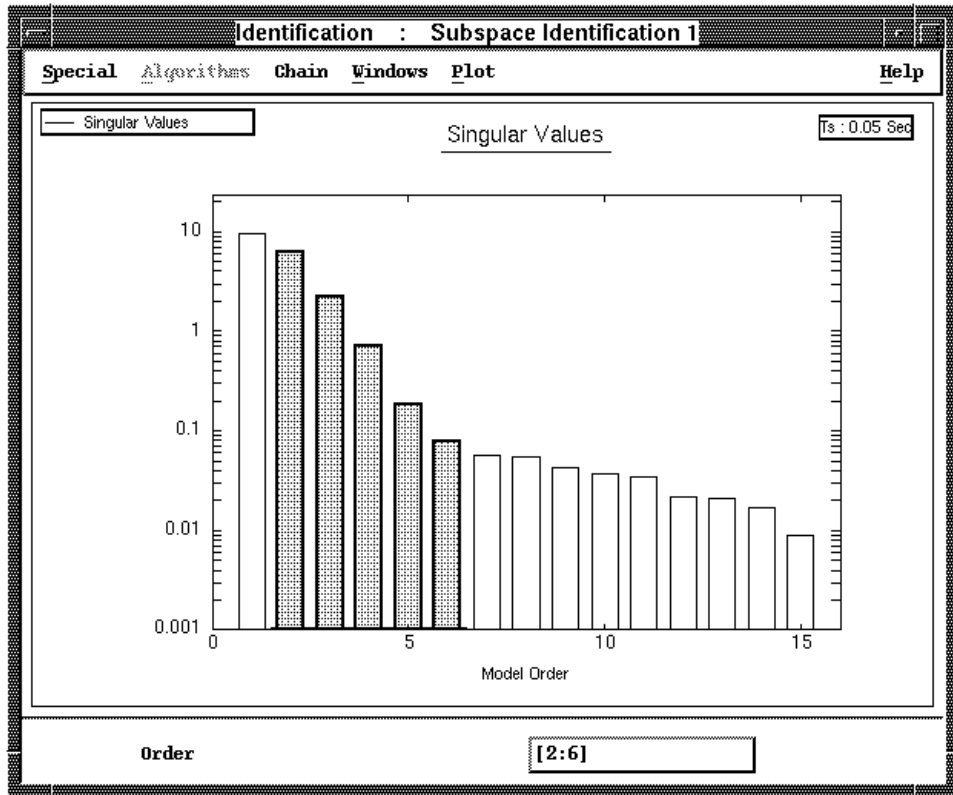

Figure 2.16 The Subspace Identification algorithm window.
8. It is time to open your first identification algorithm. Use the menu entry Algorithms → Identification → Subspace Identification to start the algorithm. Make sure you connect the input of the identification algorithm to the data object “SPLIT 1 ID Out” (and not “SPLIT 1 VAL Out”) since you want the identification output to be redirected to the identification algorithm. Connect the inputs, then hit OK in the “OPEN” window. This pops up the **Subspace Identification** window (Figure 2.16).